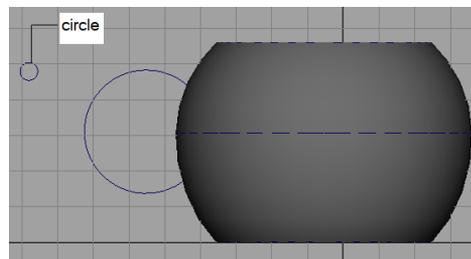

Figure 3-68 A circle created in the front viewport
3. Make sure the circle is selected. Enter **90** in the **Rotate X** edit box in the **Channel Box / Layer Editor**. Figure 3-68 displays the circle created in the front viewport.